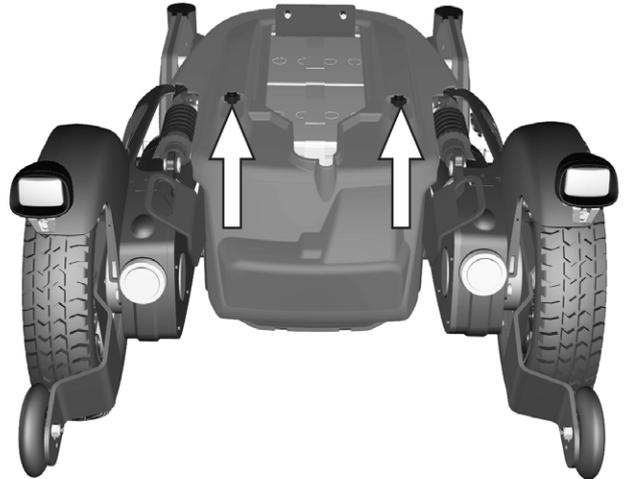

Figure 27. The chassis covers are secured with two knobs.
3. Remove the two knobs holding the chassis top- and rear-cover. See fig. 27.